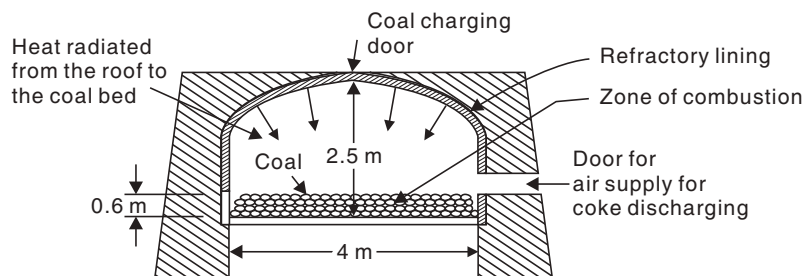

Fig. 18.3 Beehive coke oven.
- (a) **Beehive oven:** It is a batch process and now obsolete. The firebrick chambers are of 2 m height and 3.5 m diameter and form the shape of a beehive. There are two openings, one at the top for charging the coals and the other on one side for the entry of air and also for removal of coke. Coal forms a layer of 60–90 cm depth. Carbonisation proceeds from the top to bottom and completes in 2–3 days. Heat is supplied by the burning of the volatile matter and hence no byproducts are recovered. The hot exhaust gases are utilised to run waste heat boilers to increase the heat efficiency. At the end of carbonisation, the coke is quenched by water and raked out through the side door, leaving the oven hot enough to start the next batch. The yield of coke is 80% of the coal charged (Fig. 18.3).